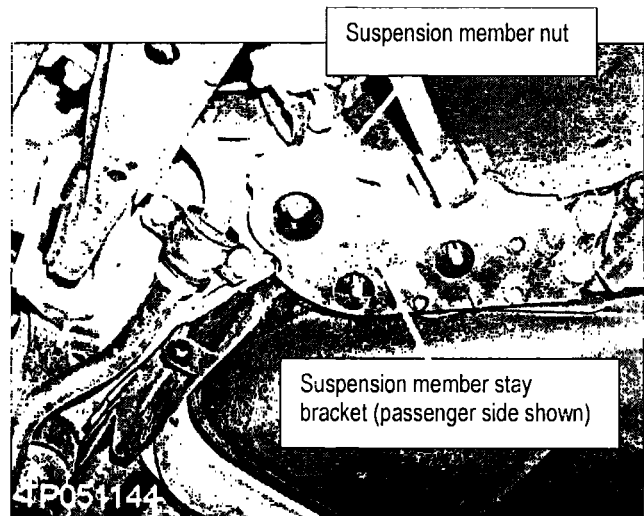

Figure 29
30. Remove the bolts and nuts that hold the suspension member "stay" brackets (both passenger and driver's side brackets). See Figure 29. Then remove the stay brackets.